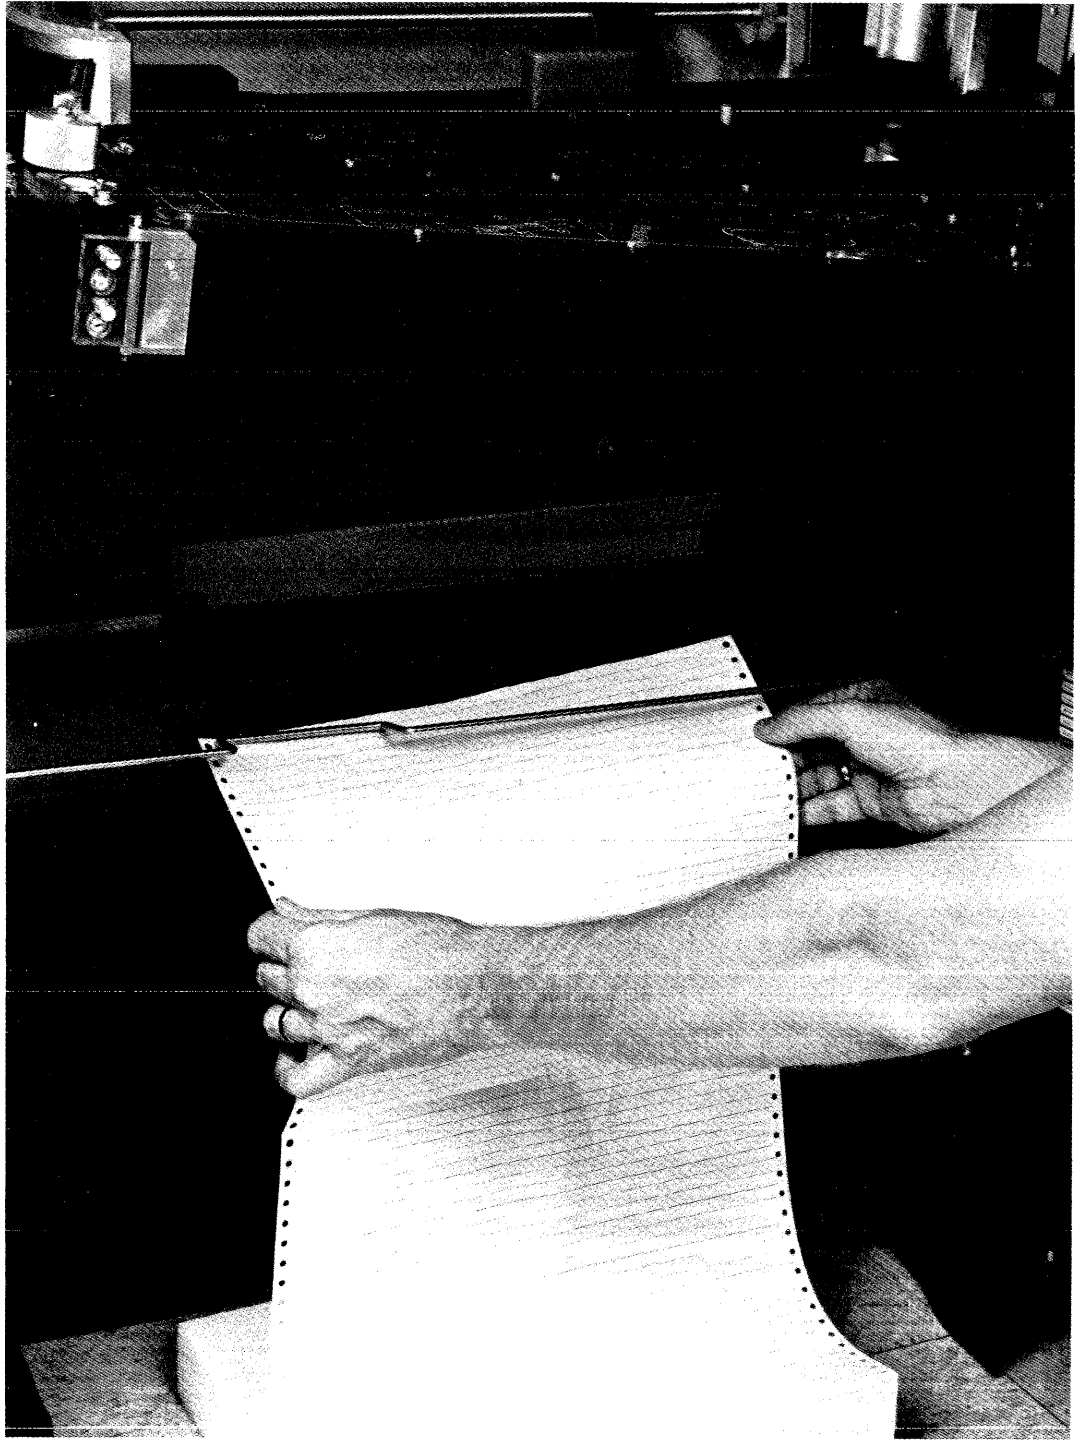

Figure 3-4. Paper Path
6. Slide the paper up through the paper path under the paper sensor bar, behind the anti-smudge shield, and over the tractor pins until the paper perforation is approximately aligned with the line indicator. (Refer to Figure 3-4.)